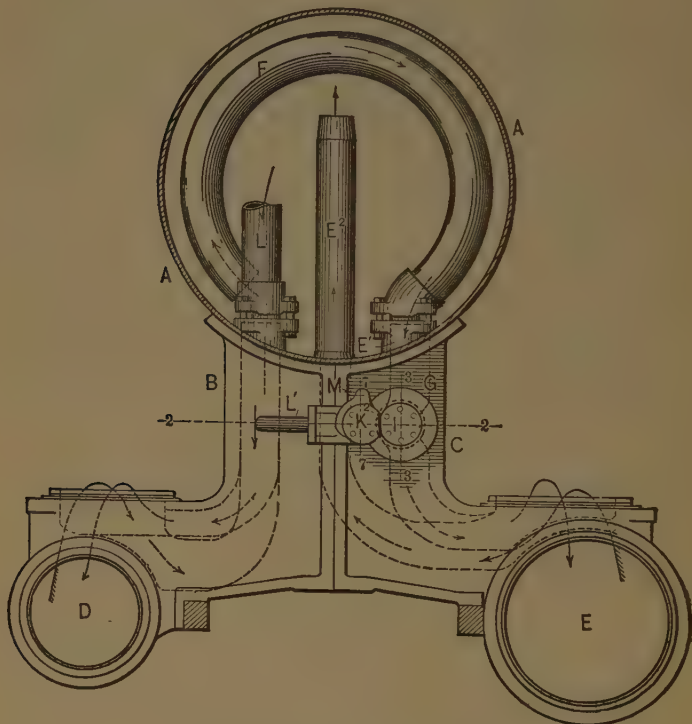
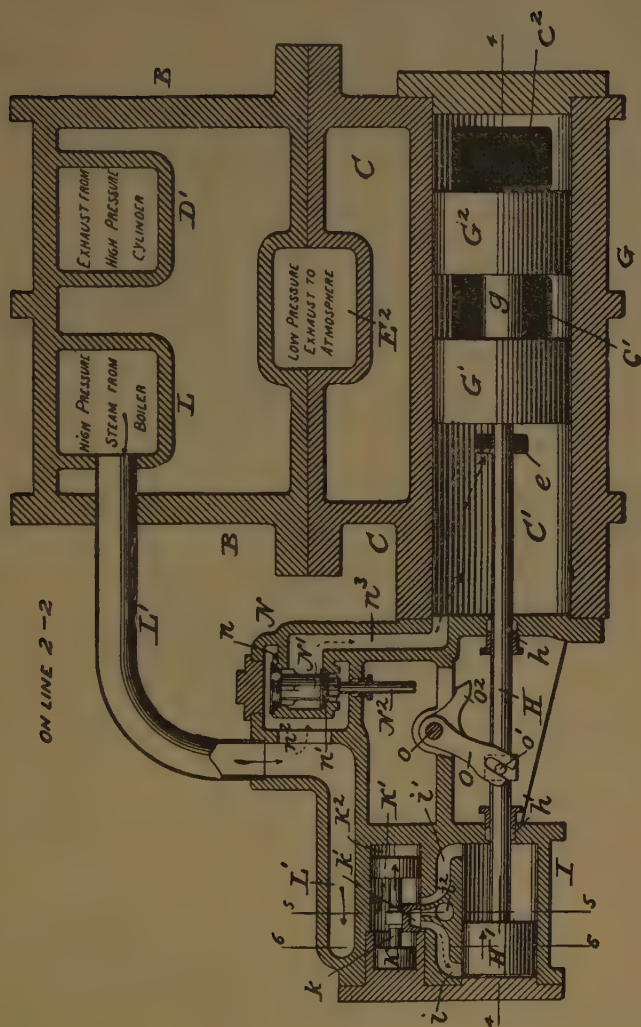
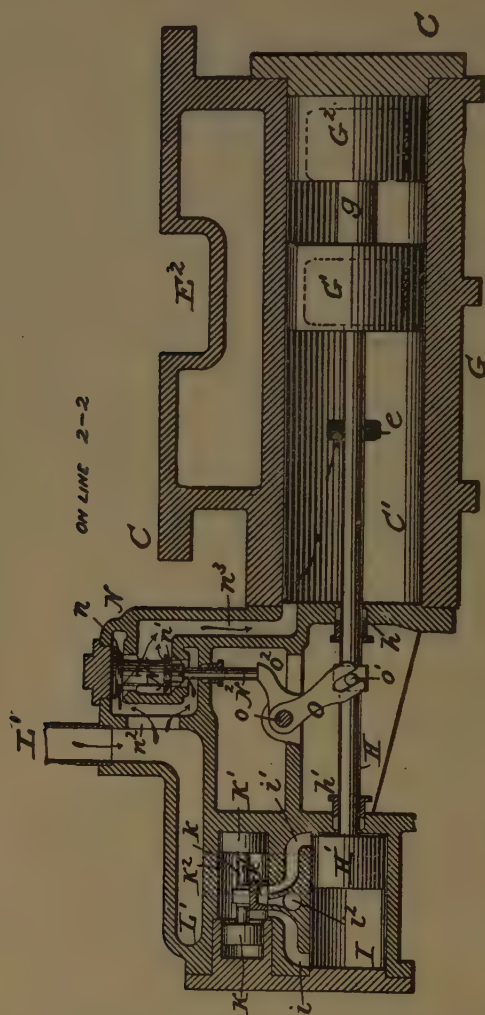

Fig. 161. Front Elevation (partly in Vertical Cross Section) Schenectady Compound.
Fig. 162. Horizontal Cross Section of Intercepting Valve and other Valves on the line 2-2 of Figures 161 and 164.
Fig. 163. Schenectady Compound, Working both Cylinders with Live Steam (see page 281).
A. Figure 161, page 274, shows a front elevation, partly in vertical cross section, showing the cylinders, their saddles, the smoke-box, the reservoir, intercepting-valve and steam-passages; figure 162 is a horizontal cross section through the intercepting-valve and other valves relating thereto on the line 2, 2 of figures 161 and 164, showing the relation of parts when the intercepting-valve is open. Figure 163 shows a similar view of some of the same parts in the position which they take when the intercepting-valve is closed. Figure 164 shows a vertical lengthwise section through the intercepting-valve on the line 4, 4 of figure 162, with the valve open; this
figure being also a section on the line 3, 3 of figure 161. Figure 165 is a vertical cross section through the regulating and intercepting valve-working division
on the line 5, 5 of figures 162 and 164. Figure 166 is a similar section on the line 6, 6 of the same figures. Figure 167 is a vertical lengthwise section through
the regulating division on the line 7, 7 of figures 161, 165 and 166; figure 168, a vertical cross section
of the steam; the short unfeathered darts in figure 162 show the movements of the regulating-valve and the actuating-piston of the intercepting-valve. Figure 161 shows a smoke-box *A* on saddles *B*, *C* connected respectively with a high-pressure cylinder *D* and a low-pressure cylinder *E*, on opposite sides of the engines and having suitable pistons and induction and eduction-ports (not shown). The exhaust-port of the high-pressure cylinder is connected by a pipe *D* (shown in dotted lines in figure 161, and in full lines in figure 164), with a reservoir *F*, the other end of which connects with the inlet-pipe *E* of the low-pressure cylinder, in which the intercepting-valve *G* is placed, and across which it reciprocates to open or close this passage. The intercepting-valve and the apparatus which belong to it are
A. As shown in figures 162 and 164, in which the intercepting-valve is opened and the admission of steam to the low-pressure cylinder, except through the high-pressure cylinder reservoir and induction port E^1 , is cut-off.
A. The throttle-valve is opened, permitting live steam to pass through the branch-pipe L^1 and port l , and the auxiliary or regulating-chamber M , the valve m of which it forces to the right (see figure 167), so as to open the port j and let steam pass into the valve-chamber K^2 , between its pistons $K K$. The right-hand one K^1 of these pistons being larger than the other, the steam pressure forces them to the right from the position shown in figure 162, to that shown in figure 163. This causes the slide-valve K^1 to uncover the ports i of the cylinder I , which in turn forces the piston H^1 to the right, closing the
ports $c^1 c^2$ of the intercepting-valve, as shown in figure 162. The relation of the ports is such that as the intercepting-valve closes, the wiper o^2 strikes the stem N^2 of the poppet-valve N^1 and opens it, thus letting live steam pass from the pipe L^1 through the passages $n^2 n^3$ into the intercepting-valve cylinder and through the port e therein to the low-pressure cylinder E below the intercepting-valve, thus operating it with the full pressure of the live steam. The intercepting-valve, as before remarked, is already closed, and the tendency of the live steam is to press it upward in its seat, so as to prevent any leakage into the receiver and consequent back pressure upon the high-pressure cylinder. The perforations g^1 in the intercepting-valve prevent the steam from exerting any endwise pressure upon it in either direction, and it is consequently entirely dependent upon the action of the live steam upon its piston H^1 in the actuating-cylinder I . The intercepting-valve should have sufficient lap to move slightly beyond its closing point, in order that the opening of the supply-valve N^1 may not take place until the intercepting-valve is fully closed, the tappet o^2 being correspondingly adjusted.
and simultaneously opening the port j^1 . The steam then passes through this last-named port and the port j^2 to opposite sides of the larger piston K^1 the result of which is to force the slide-valve k^1 to the left in the position shown in figure 162, which opens the exhaust i^2 and the inlet i^1 of the cylinder / and forces the piston H^1 to the left, thereby opening the intercepting-valve. This movement of the piston H^1 detaches the wiper o^2 from the poppet-valve N^1 and allows it to close quickly before the intercepting-valve opens. The parts having thus resumed the position shown in figure 162, the engine resumes its compound working.